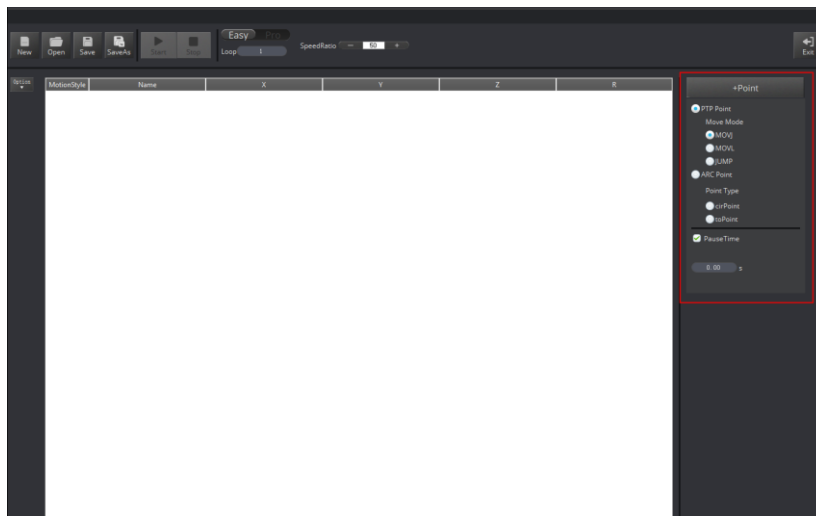

Figure 5.15 Set the save points, motion modes and pause time
- In both **Easy** and **Pro** modes, you can save points, set the motion mode and the pause time for a save point, as shown in Figure 5.15.